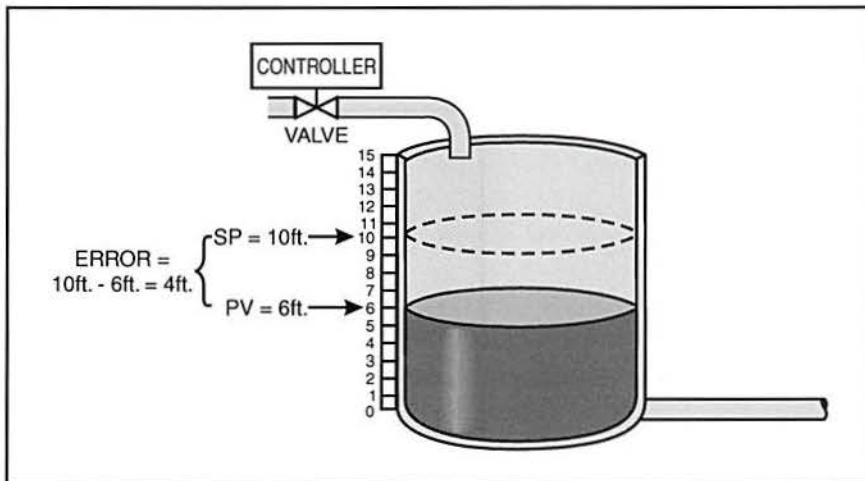

Figure 7. Error in a Process
For example, if the actual level in a tank (PV) is 6 feet of water and the setpoint (SP) is set at 10 feet, the error would be 4 feet ( $10 - 6 = 4$ ). Therefore, in order for the PV to reach SP, the level would have to increase by 4 feet of water. This is shown in figure 7.